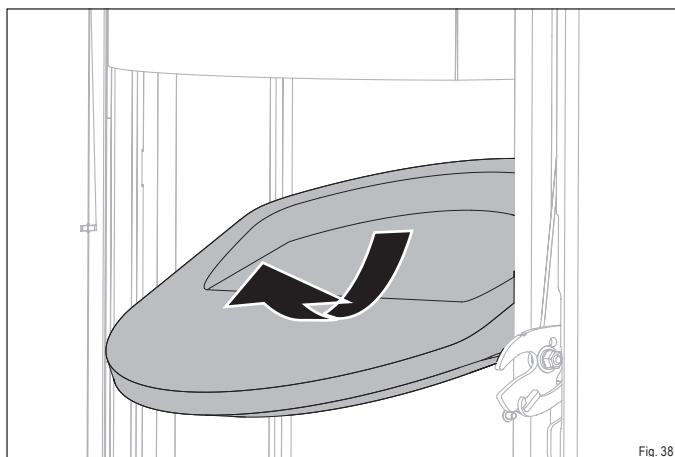

Fig. 38
- ▶ Carefully remove the top fire brick from the retainer as shown (Fig. 38).